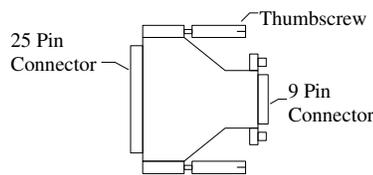

Figure 3: 25 Pin to 9 Pin Adapter (Optional)
- 2) 25 pin to 9 pin adapter (Figure 3): (Optional).
- 2) Select the serial communications port to be used on the computer. If the port to be used is a 25 pin port, the “25 pin to 9 pin adapter” (Figure 3) will be needed. Otherwise, if a 9 pin port is used, the “25 pin to 9 pin adapter” will not be needed. This is an optional adapter included upon request.